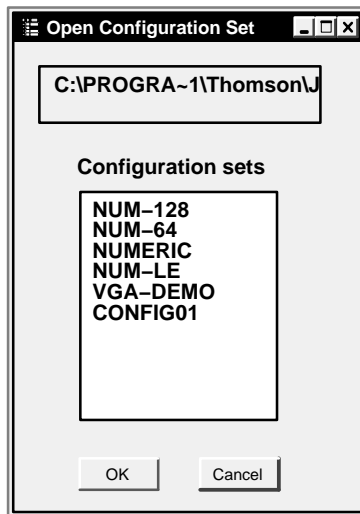

Figure 5–8. Select Edit Set menu.
1. On the “File” portion of the Jupiter Configuration menu (page 5–2), click on “Open.” This will bring up a menu similar to that shown in Figure 5–8.